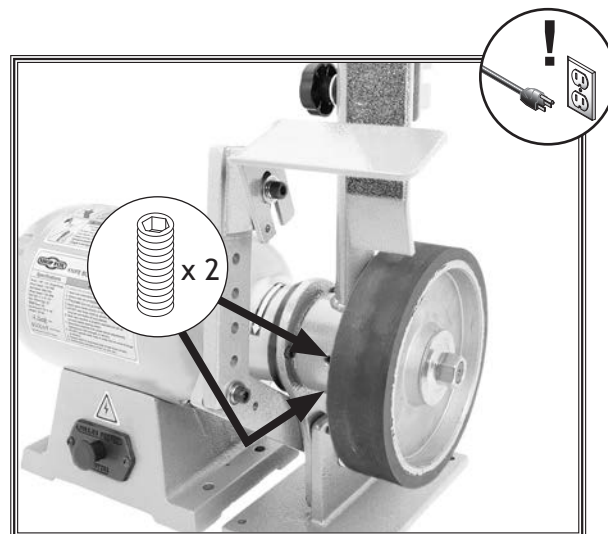

Figure 26. Pivot arm set screw locations.
2. While holding the arm assembly, loosen the two set screws in the round end of the pivot arm (see **Figure 26**).